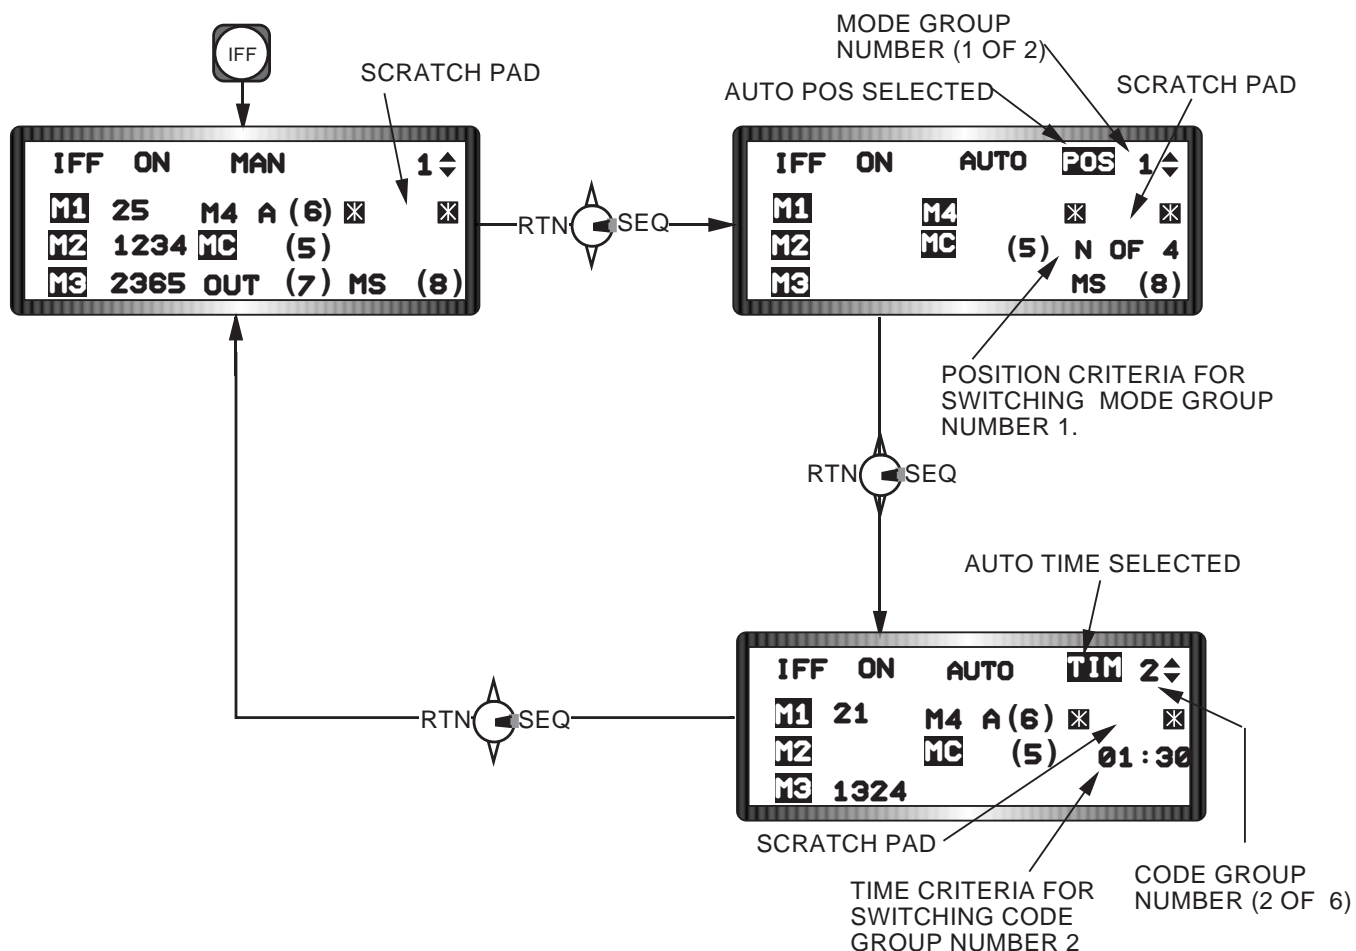

Figure 1-52 Auto IFF DED Pages
Auto IFF Feature. The Auto IFF feature provides automatic switching of transponder modes and codes based on either aircraft position or time. The feature may be programmed manually or through a DTC Load. There are three AUTO switching options: (1) POS, which is mode switching based on aircraft position; (2) TIM, which is code switching based on time; and, (3) both Position (POS) and Time (TIM). The Auto IFF DED pages are accessed from the Manual (MAN) IFF DED page (Figure 1-52). Moving the DCS (dobber) switch to the right rotaries the pages from MAN to AUTO POS to AUTO TIM and back to MAN. To enable AUTO IFF options, "dobber" right to select the appropriate page (asterisks about the appropriate mnemonic at the top of the page) and depress the ICP Mode Select (M-SEL) button. Both AUTO modes (TIM and POS) may be mode selected and operated in parallel with one another however, Manual (MAN) and Automatic (AUTO) modes can not be operated together. In addition, MAN and AUTO modes and codes do not overwrite or replace one another when transitioning between manual and automatic transponder operations.
Auto Position. AUTO POS mode can be viewed as a switch that turns the transponder modes "ON" when the aircraft passes a pre-defined position North, South, East or West (N, S, E, or W) from a referenced steerpoint. The POS mechanization allows the pilot to define two groups of modes that can be controlled. Each group may consist of any combination of six available transponder modes (Modes 1, 2, 3, 4, C, and S). The AUTO POS DED page (Figure 1-52) can be identified by the POS mnemonic at the top of the page and the absence of any transponder codes in the body of the page. When the AUTO POS page is accessed the asterisks default about the POS mnemonic. Depressing the M-SEL button highlights the mnemonic, activates the POS mode, and moves the asterisks to the scratchpad. Immediately to the right of the POS mnemonic is the currently selected mode group (1 or 2). The mode group may be changed by depressing the INC/DEC switch on the ICP. As each mode group is selected, the preprogrammed mode mnemonics associated with the group will illuminate on the DED page. Current modes may be modified by placing the asterisks about the scratchpad, depressing the appropriate mode numeral and ENTR. The mode mnemonic will highlight (on)/dehighlight (off) to reflect mode status as each mode numeral is selected and the ENTR button is depressed.
Auto Time. AUTO TIM mode can be viewed as a switch that turns "ON" Mode 1, 3, and 4 transponder codes based on the time of day. Switching of mode 2, C, and S codes are not a functional part of the TIM capability. The TIM mechanization allows the pilot to program up to six code groups and the times that they will be activated. The AUTO TIM DED page, shown in Figure 1-52, can be identified by the TIM mnemonic at the top of the page. When the AUTO TIM page is accessed the asterisks default about the TIM mnemonic. Depressing the M-SEL button highlights the mnemonic, activates the AUTO TIM mode, and moves the asterisks to the scratchpad. Immediately to the right of the TIM mnemonic is the currently selected code group numbers (1 through 6). Code groups may be changed by depressing the INC/DEC switch on the ICP. As each code group is selected, the programmed codes will appear next to the currently selected modes; and, the time that the codes will be activated appears directly below the scratch pad. Currently programmed codes may be modified by placing the asterisks about the scratchpad, depressing the appropriate code number sequence and ENTR. Modified codes will appear next to the appropriate mode as they are entered.